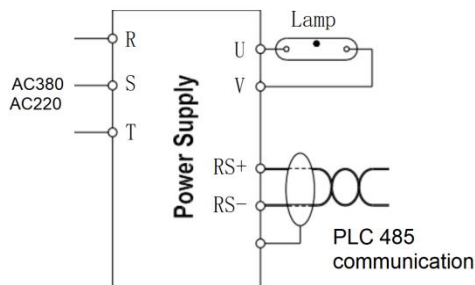

Figure 6-3 Wiring Diagram of User Communication Application
1. Electrical connection: R, S, T are connected to three-phase 380V AC power supply, and the UV terminal as shown in Figure 6-3.